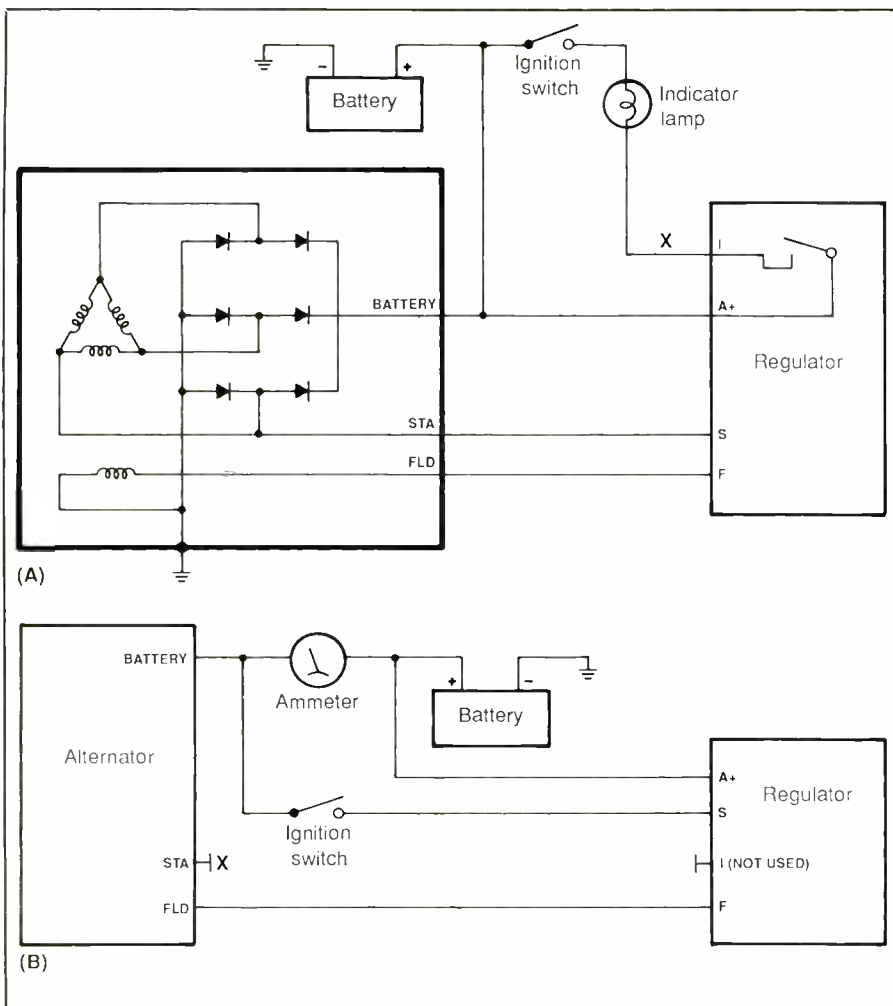

Fig. 3. Schematic diagrams of circuits that can be found in many Ford Motor cars: (A) with "idiot lamp" and (B) with ammeter charging indicators.
Figure 3(A) is the schematic diagram of a typical Ford circuit. Except for terminal markings, it employs much the same design as the General Motors circuit discussed above. The lamp is connected to Terminal 1, which is where the headlights control relay should be connected as well.
Shown in Fig. 3(B) is the schematic diagram of a similar circuit to that shown in Fig. 3(A). The difference here is that the Fig. 3(B) circuit uses an ammeter movement in place of the lamp. In this configuration, Terminal 1 is not used and, thus, is not suitable for the headlights-controlling relay. The STA (stator) terminal of the alternator is not connected to the regulator. It may not be used, or it may be connected to an electric-choke heater. The headlights relay could be connected to the STA terminal in this arrangement.